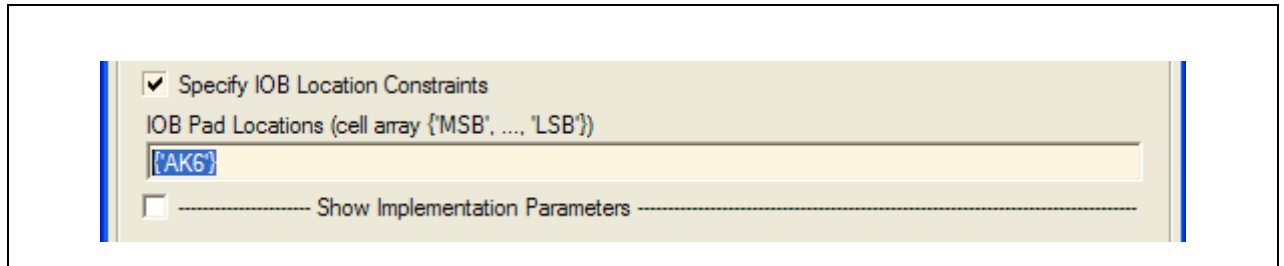

Figure 139: Trigger Pin Location
- Trigger Pin: Double click on the Trigger Gateway Out, select Specify IOB Location constraint and type in {'Y11'} (note the need for single quotes) as shown in **Figure 139 on page 213**.